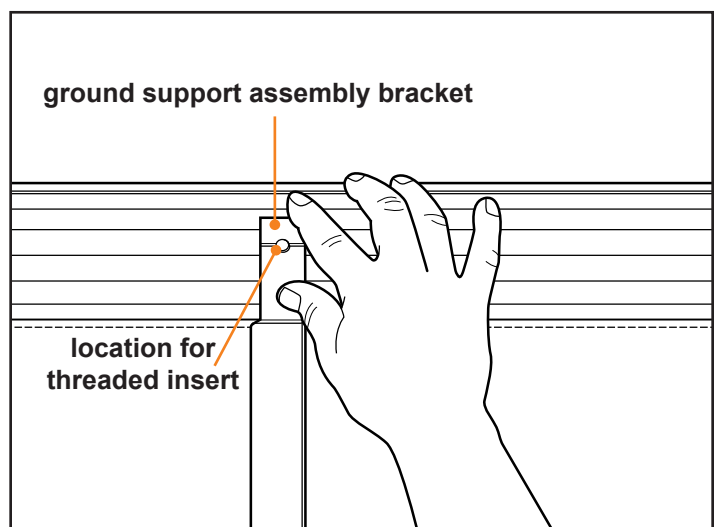

Fig.3
3. Position the Ground Support assembly bracket at the center of the roll tube (Fig.3).
4. Mark the location for the bolt at the center of the roll tube using the Ground Support assembly bracket (Fig.3) as a guide.